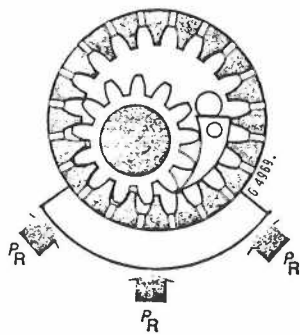

Fig. 2.1 Illustration of IPH radial compensation
**IPH radial compensation** (see figure 2.1)